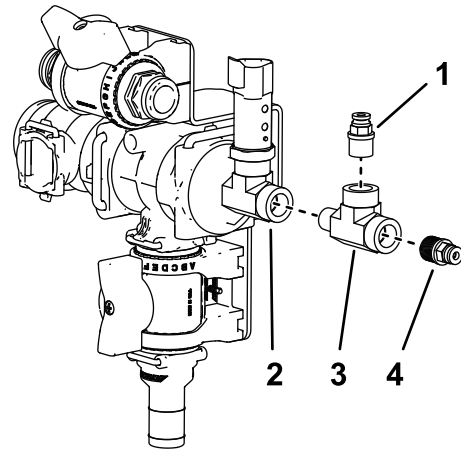

Figure 30
11. Remove the existing coupler from the T-fitting on the T-manifold (Figure 30).
12. Apply PTFE sealant to the threads on the included threaded T-fitting, and connect the included T-fitting to the existing T-fitting (Figure 30).
13. Apply PTFE sealant to the threads on the included coupler and connect it to the top of the newly installed T-fitting (Figure 30).
14. Apply PTFE sealant to the threads on the coupler removed in step 11 and connect it to the end of the newly installed T-fitting (Figure 30).